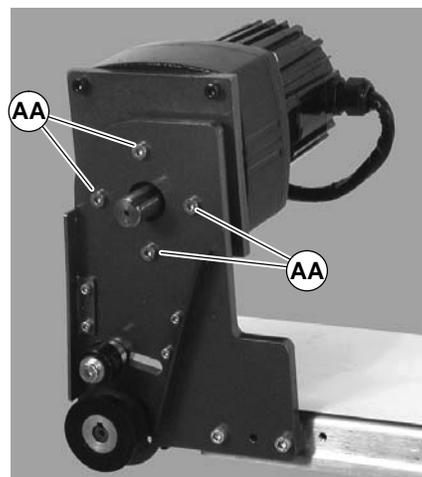

Figure 19
7. Remove four gear motor mounting screws (AA of Figure 19). Remove gearmotor/adaptor plate Assembly.
10. Install gearmotor/adapter plate assembly on mounting bracket with screws (AA of Figure 19). Tighten screws to 103 in-lb (12 N-m).